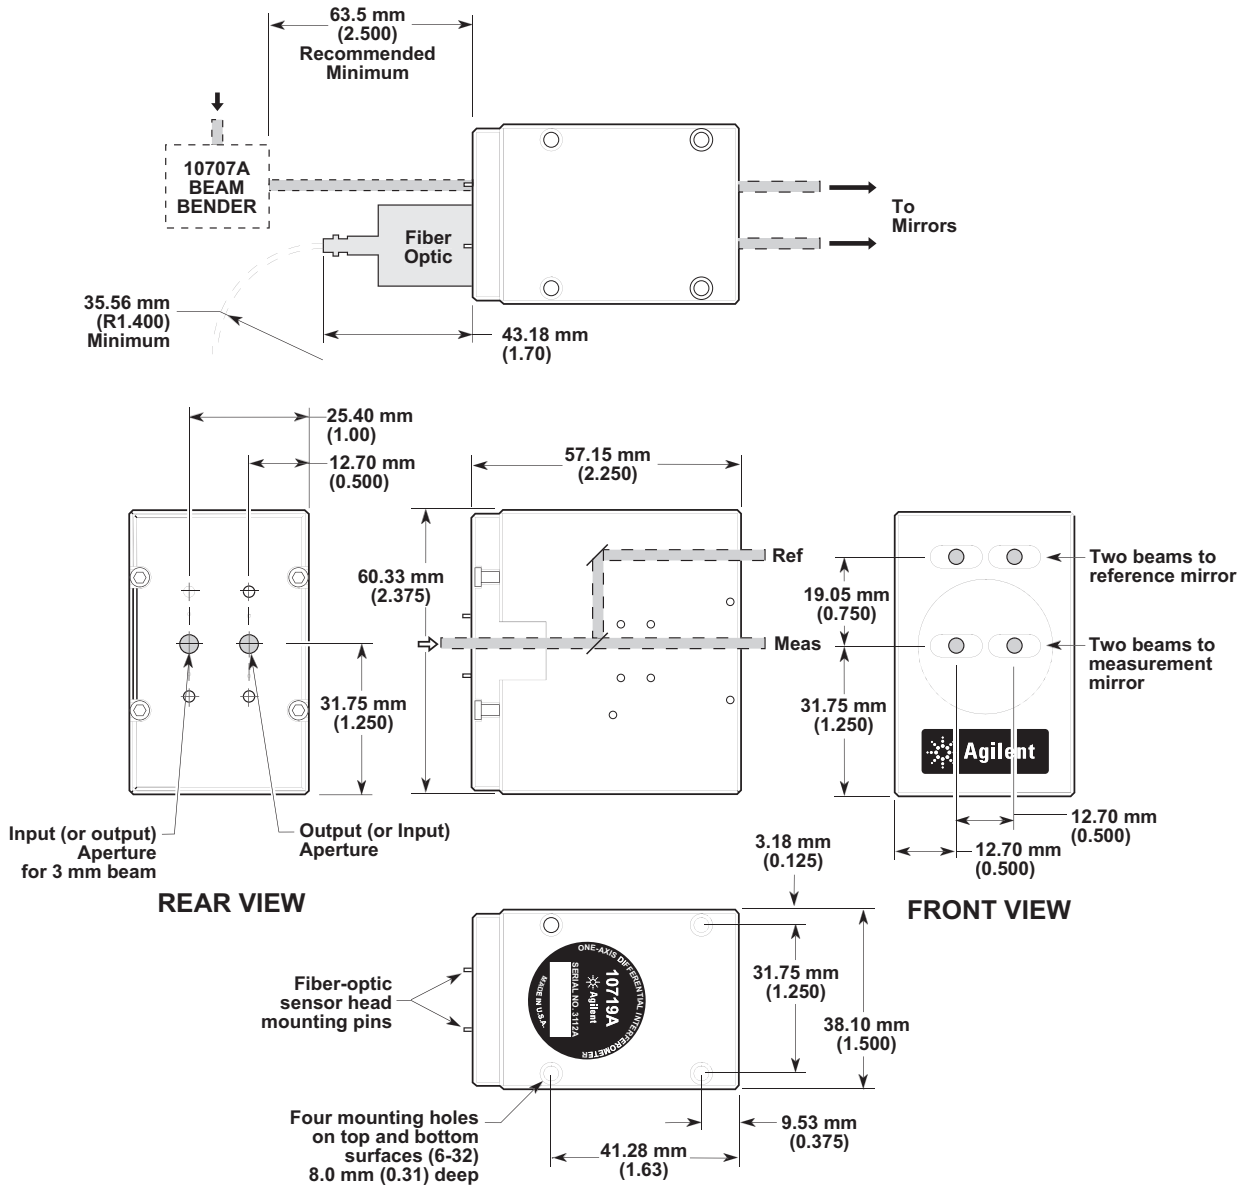

Figure 176 Agilent 10719A One-Axis Differential Interferometer — dimensions
**Dimensions:** see Figure 176 (10719A), Figure 177 (10719-C02)